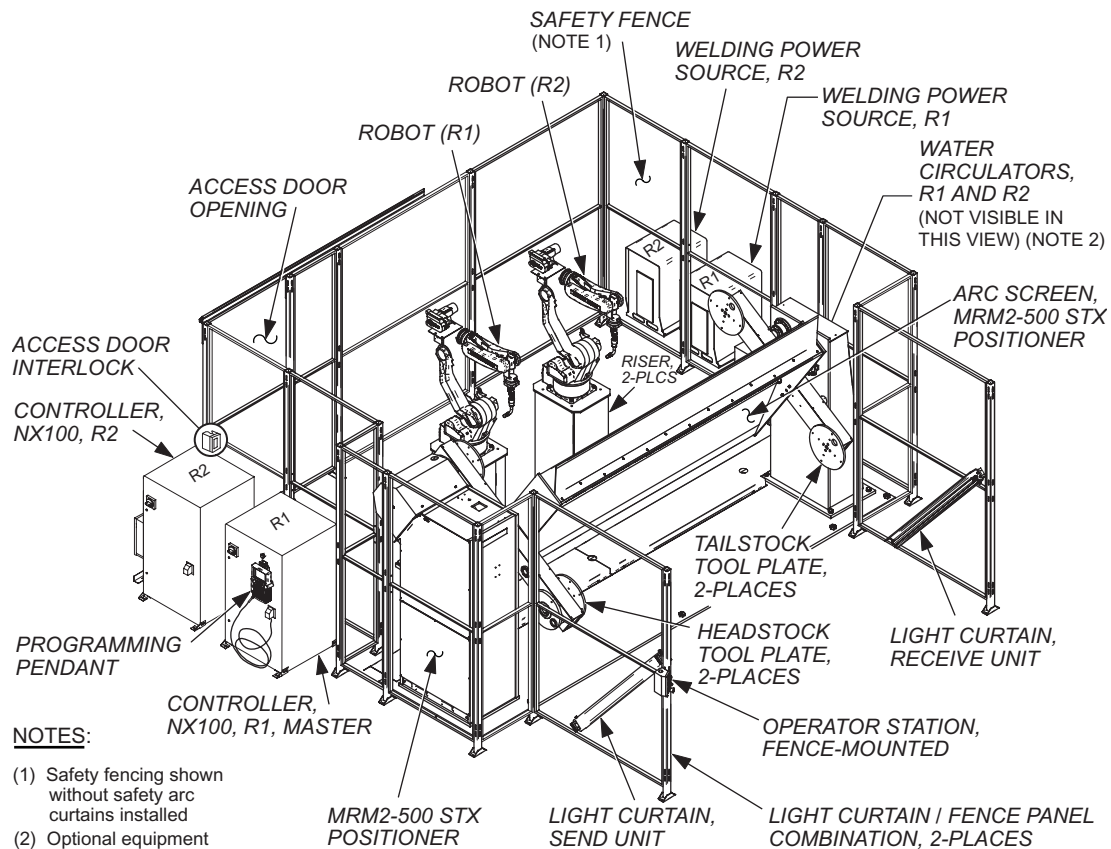

Figure 1 Overview and Component Location – ArcWorld® II-6200HD System
The ArcWorld® II-6200HD system provides a complete arc welding solution in a standardized configuration (see Figure 1). The system is designed around two Motoman EA-Series six-axis arc welding robots, two NX100 controllers, two welding power sources, and an MRM2-500 STX reciprocating positioner. The MRM2-500 STX is an AC servo-driven headstock/tailstock (HS/TX) positioner that allows an operator to prepare and set up parts on one side of the positioner, while the robots weld previously loaded parts on the other side of the positioner. Control of an external axis is provided by circuitry installed in the NX-100 controllers.
Major components of the ArcWorld®II-6200HD system are anchored individually to the floor, as this system does not use common equipment bases. Heavy-gauge, wire mesh safety fencing is provided for installation at the customer’s location. When installed, this safety fencing completely surrounds the work cell. Both NX100 controllers and welding power sources are located outside of the work cell. All system controls, including those on the Programming Pendant, NX100 controllers, welding power supplies, and Operator Station are safely accessible from outside the ArcWorld®II-6200HD work cell (see Figure 1 for location of these components).
- One fence-mounted Operator Station (see Figure 1 for location)